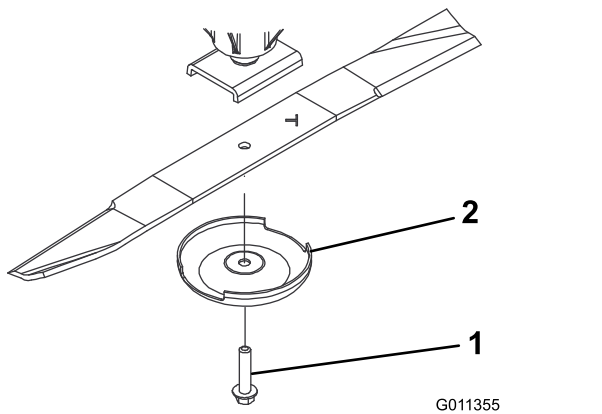

Figure 72
3. Grasp the end of the blade using a rag or thickly padded glove and remove the blade bolt, anti-scalp cup, and blade from the spindle shaft (Figure 72).
4. Install the blade with the sail facing toward the cutting deck, with the anti-scalp cup and blade bolt (Figure 72).